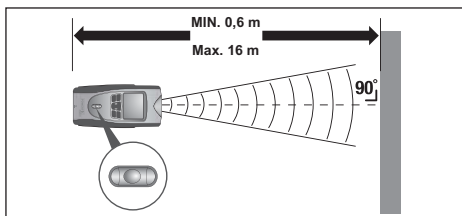
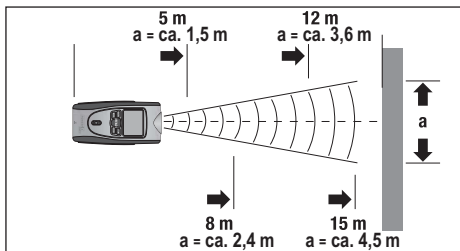

Fig. 1
Fig. 2
1. Switch the appliance on by pressing the button ON/OFF ⑩.
2. If necessary, press the MODE ⑨ button several times until the indicator L (distance measurement) appears in the display.
3. To switch between metric (Meter M) and Anglo American (Feet'/Inch'') measurement units, press the button FT/M ④.
4. Hold the appliance upright towards the wall to which you wish to measure the distance. The ultrasound sender/receiver ② must be at a right angle to the wall. For this, use the spirit level ⑧:
The bubble in the glass ⑧ must stand between the marking lines (see Fig. 1).
5. Press the button READ ⑪ briefly. A laser point is projected and an acoustic signal sounds. Hold the appliance in this position until the measured distance appears in the display ⑫.
The further you are from the wall, the wider is the area (a) that the Distance Meter must measure by ultrasound (Fig. 2). Therefore, take care to ensure that the Distance Meter is always directed at a right angle towards a level surface (Fig. 1 and 3). Ensure that there are no objects positioned within the measurement area.